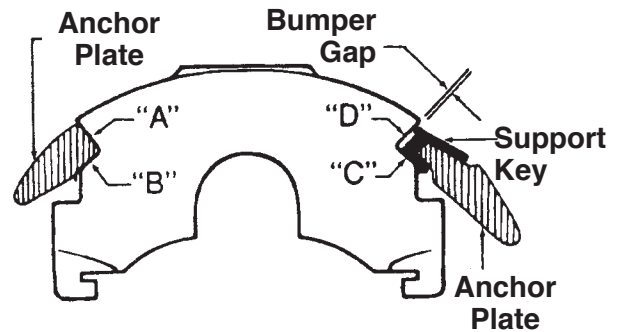

Figure 2
5. Insert a screw driver into center of key/bumper gap and pry firmly to assure that the caliper is seated against the three slide surfaces A, B, and C (see Figure 2).
6. Measure the bumper gap with the largest feeler gauge (or stack of gauges) that will fit into the gap on either side of the screw driver (see Figure 2).